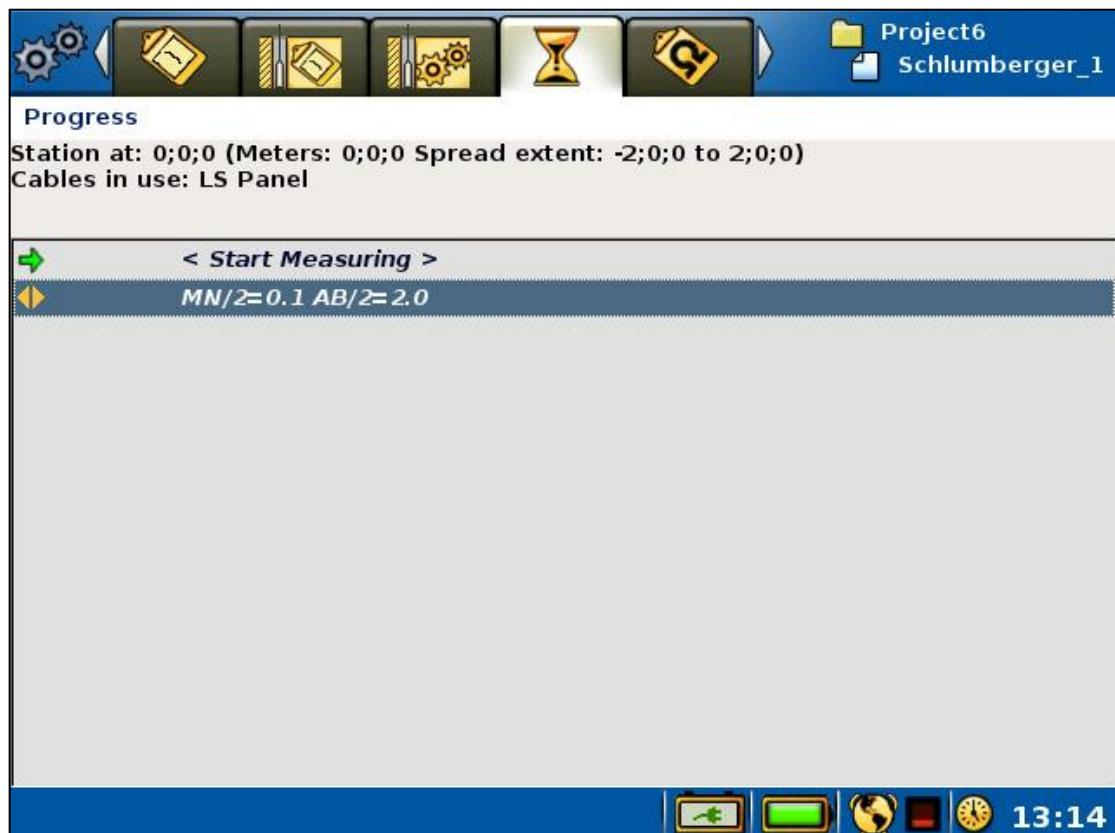
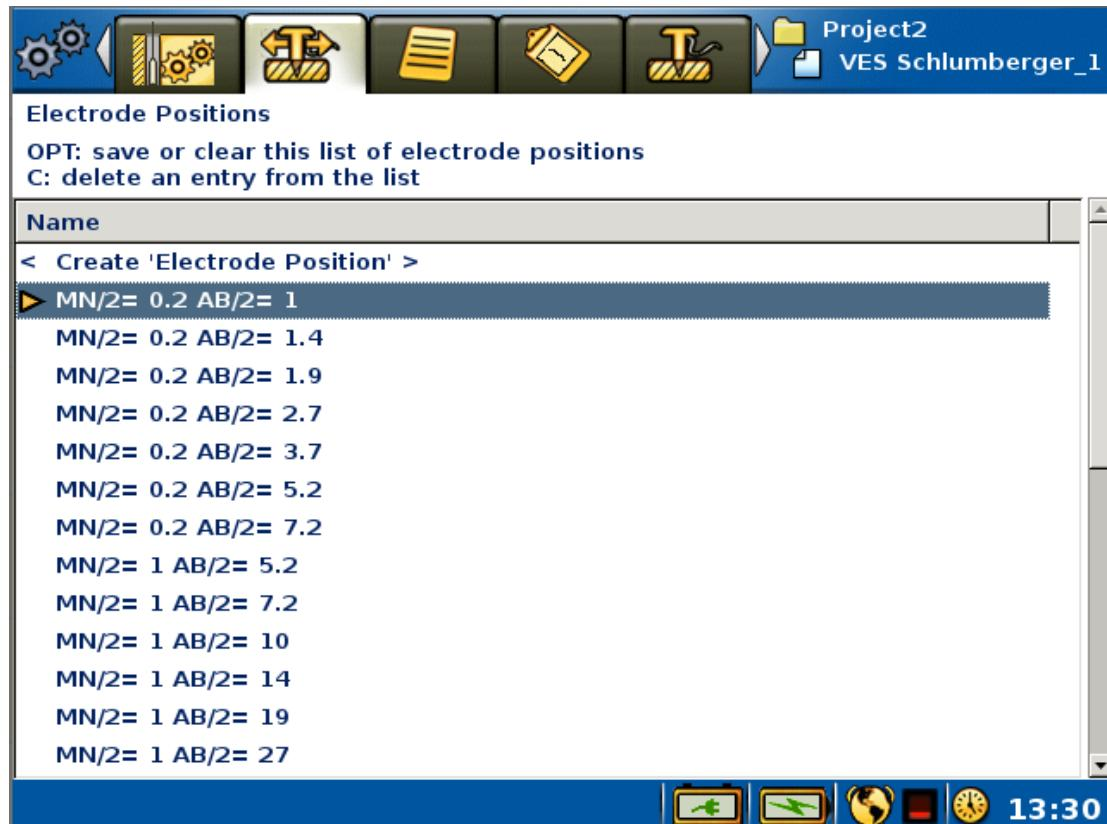

Figure 52 The Progress Page in VES mode
Figure 53 Electrode Positions Page in VES mode. Highlight bar (blue) and active electrode position marker (yellow) both on the second row
- The “Measure/Progress” Page (Figure 52) will be used to start and stop measurements as usual. Choosing which of the predefined electrode positions to measure from can also be set from this *Page*.
- The “Measure/Electrode Positions” Page (Figure 53) displays a list of all the possible electrode positions that are predefined in the active *Task*. The electrode positions can be set manually (and a new temporary electrode position created) from this *Page*.
In VES mode, with a Schlumberger protocol selected, a line with a "MN/2 and AB/2" electrode position will be shown on the *Progress Page* (Figure 52). This is the active electrode position, and it can be changed using the left and right arrows. It is thus possible to step through all available electrode positions that are pre-defined in the protocol file; measurements do not necessarily need to be undertaken at every interval.
The *Electrode Positions Page* (Figure 53) lists all the electrode positions from the protocol file. The yellow arrow is placed on the line that corresponds to the active electrode position. This electrode position is the one that is shown on the second row of the *Progress Page* (Figure 52). The *Electrode Positions Page* will be empty when the instrument is not in VES mode.
- Navigate to the “Measure/Electrode Positions” Page (Figure 53)